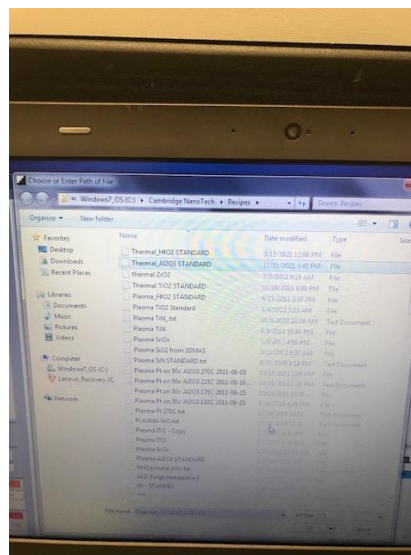

Figure 8: Recipe Window
9.6.3. Select the recipe you would like to run. **Figure 8.**
9.6.4. Once the recipe is loaded, ensure the “pulse” and “goto” steps are set correctly for your process. **Figure 8.**